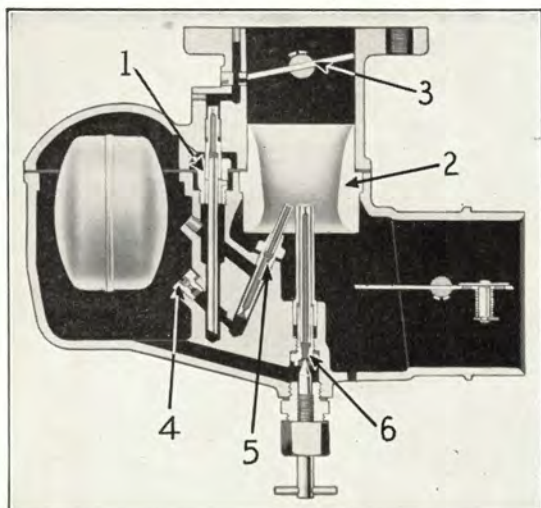
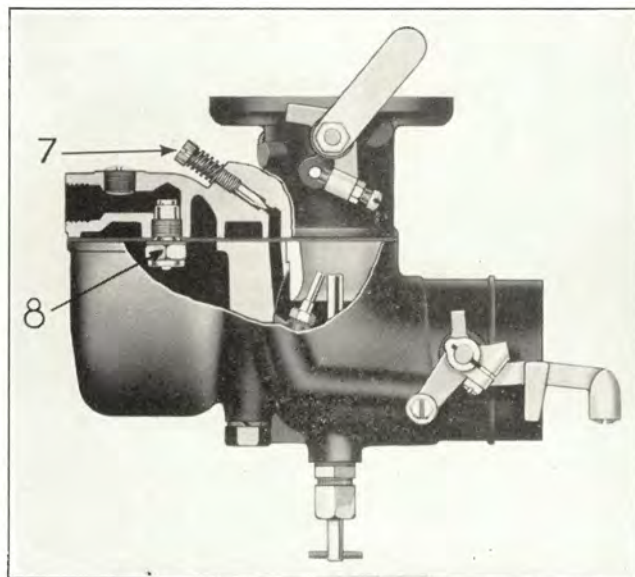

Figure 1
Figure 2
The construction of this carburetor is shown in the accompanying illustrations. Figure 1 shows the principal jets. The Idling Jet (1) measures the fuel for idling speeds. (The air for idling is regulated by the Idling Adjusting Needle shown as (7) in Figure 2.) This idling system functions only when the Throttle Plate (3) is almost closed, causing a very strong suction on the priming hole at the edge of the throttle plate.